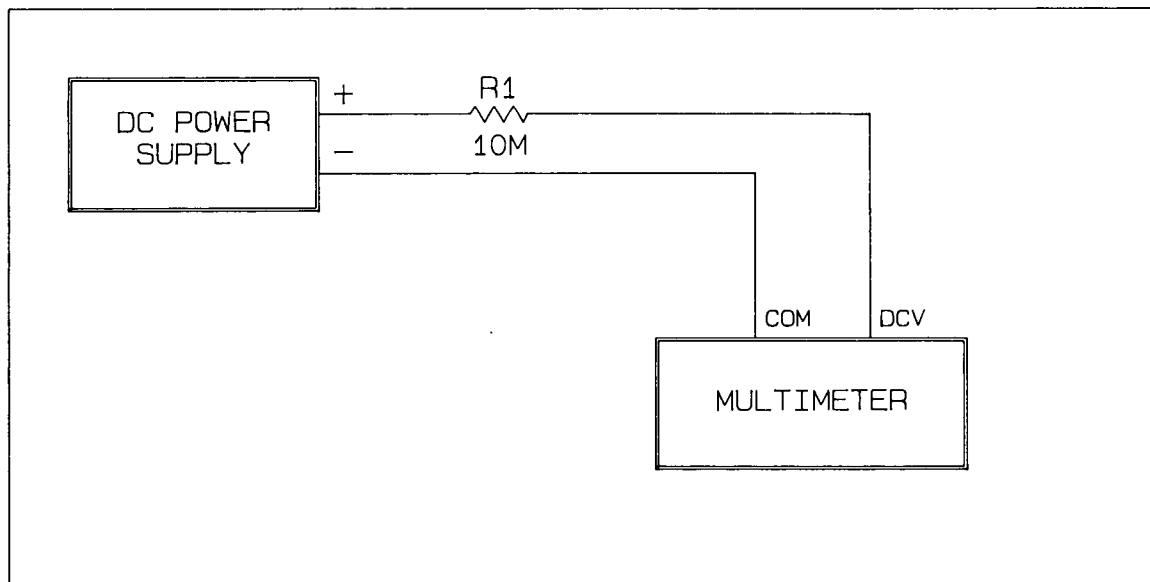

Figure 11-4 DC Isolation Test Set-Up
3. Connect the test equipment as shown in Figure 11-4.